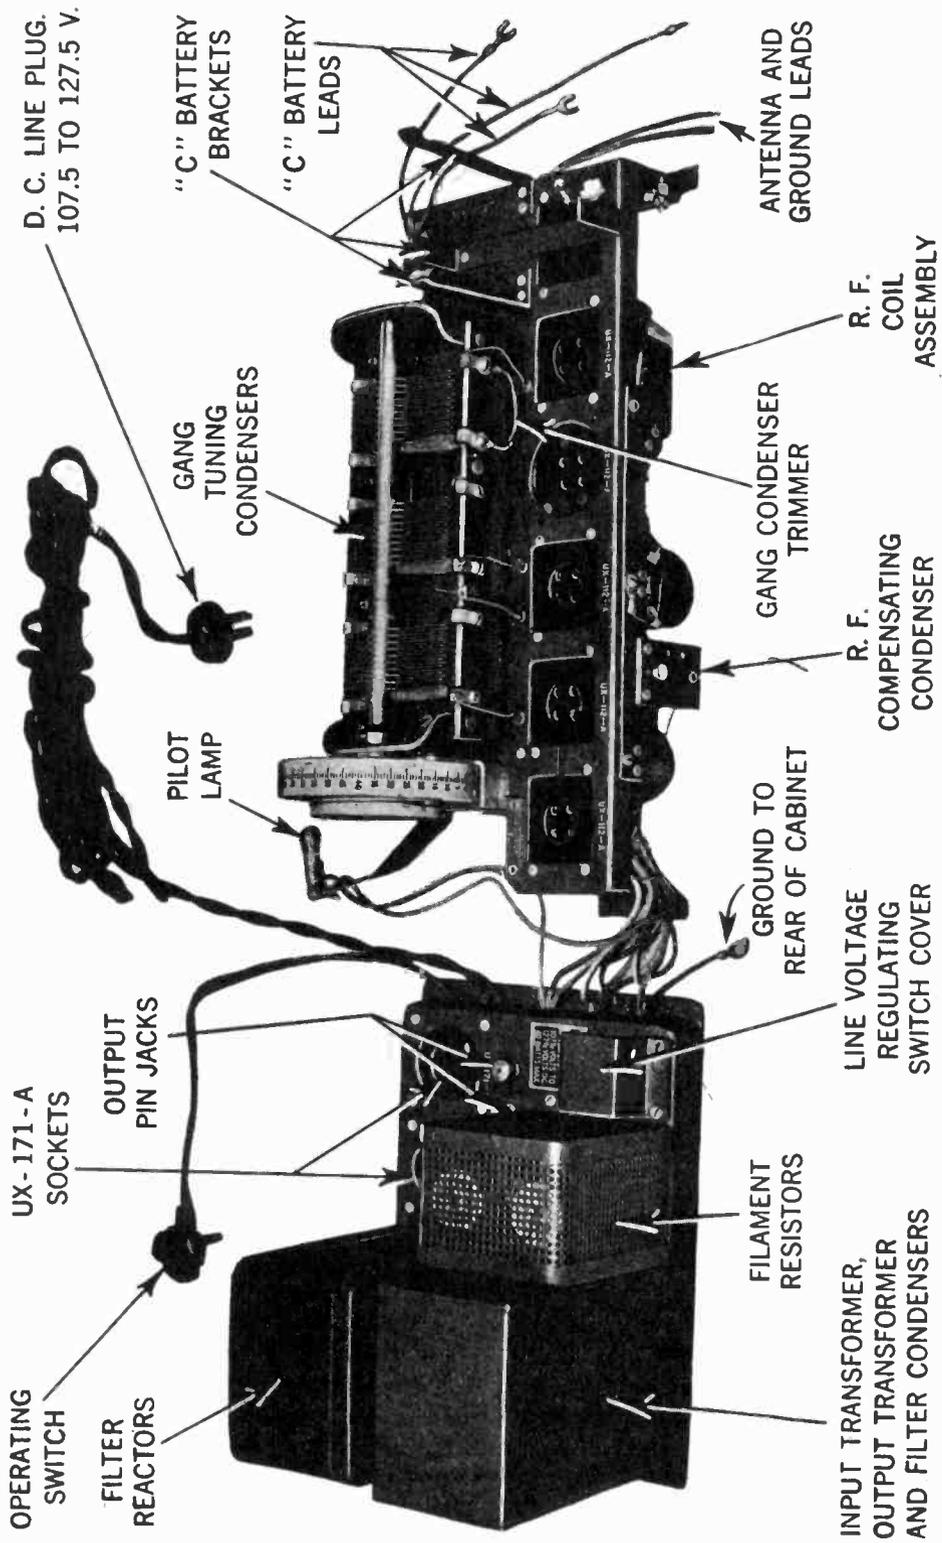
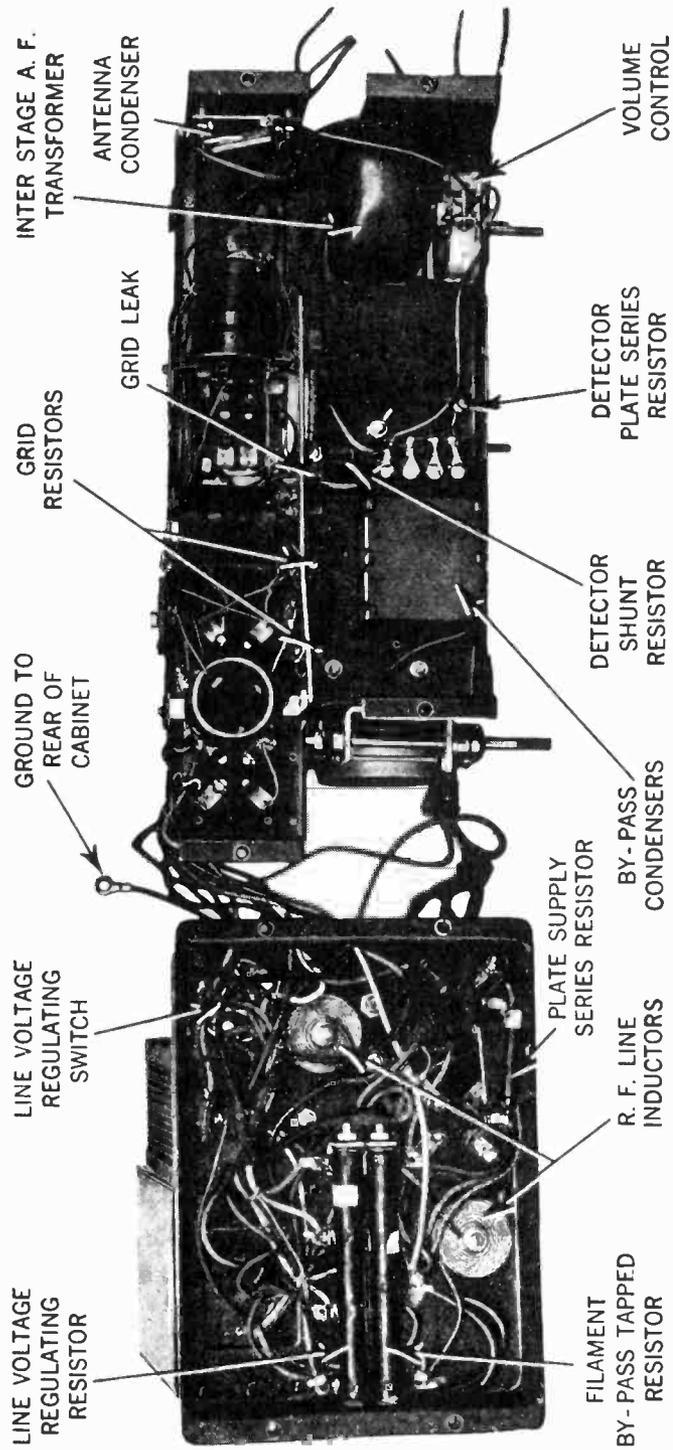

Figure 1—Top view of receiver chassis and socket power unit
Figure 2—Sub-chassis view of receiver and socket power unit
RCA Radiola 33 is manufactured in a model designed for direct current lighting circuit operation. Figure 1 is a top view of the receiver chassis and socket power unit and Figure 2 is a sub-chassis view of both assemblies. While this model is similar to the A.C. model in appearance and performance, electrically it is considerably different. For this reason a special Service Note on this model is issued for the guidance of those called upon to locate and remedy any trouble that may develop.
A four-position switch is provided on the S.P.U. for adjusting the Radiola to various line voltages over a range of 107.5 to 127.5. (See Figures 1 and 7.) The line voltage should be measured by an accurate D.C. voltmeter, and the switch placed at the correct position for this voltage. The different positions of the switch are as follows:
- (d) After checking the condensers for low capacity they may be checked for high capacity by taking the ring of the tool and inserting it successively in the center of the three R.F. coils. This should give a decrease of signal. If it increases then the end rotor plate of the condenser that tunes the coil should be bent away from its adjacent plate. This should be bent until inserting the ring in the coil will give a decrease of signal rather than an increase. The detector tuning condenser is provided with a gang condenser trimmer for aligning this circuit. (See Figure 1.) Instead of bending the plate of the condenser, adjustment should be first attempted at the gang condenser trimmer by careful bending. In most cases this will cover all aligning adjustments required in the detector stage.